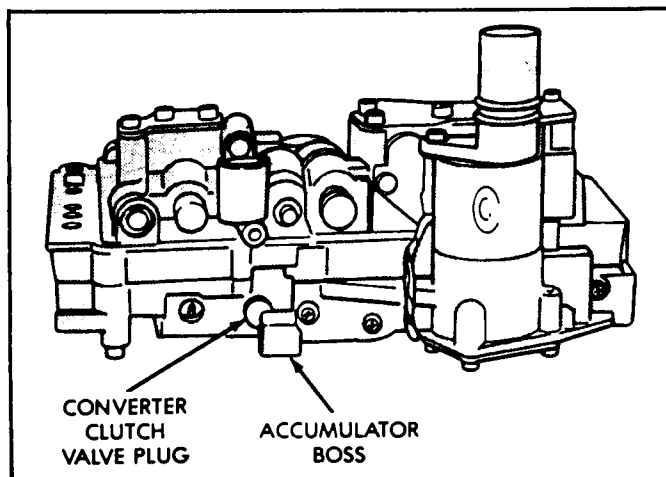

Figure 105
28. Hold accumulator housing firmly in place, and install the two remaining attaching screws (See Figure 105).
29. Be sure that springs and the converter clutch valve plug are seated properly. (See Figure 105).
30. Torque the 3 accumulator housing screws to 35 in.lbs. (See Figure 105).